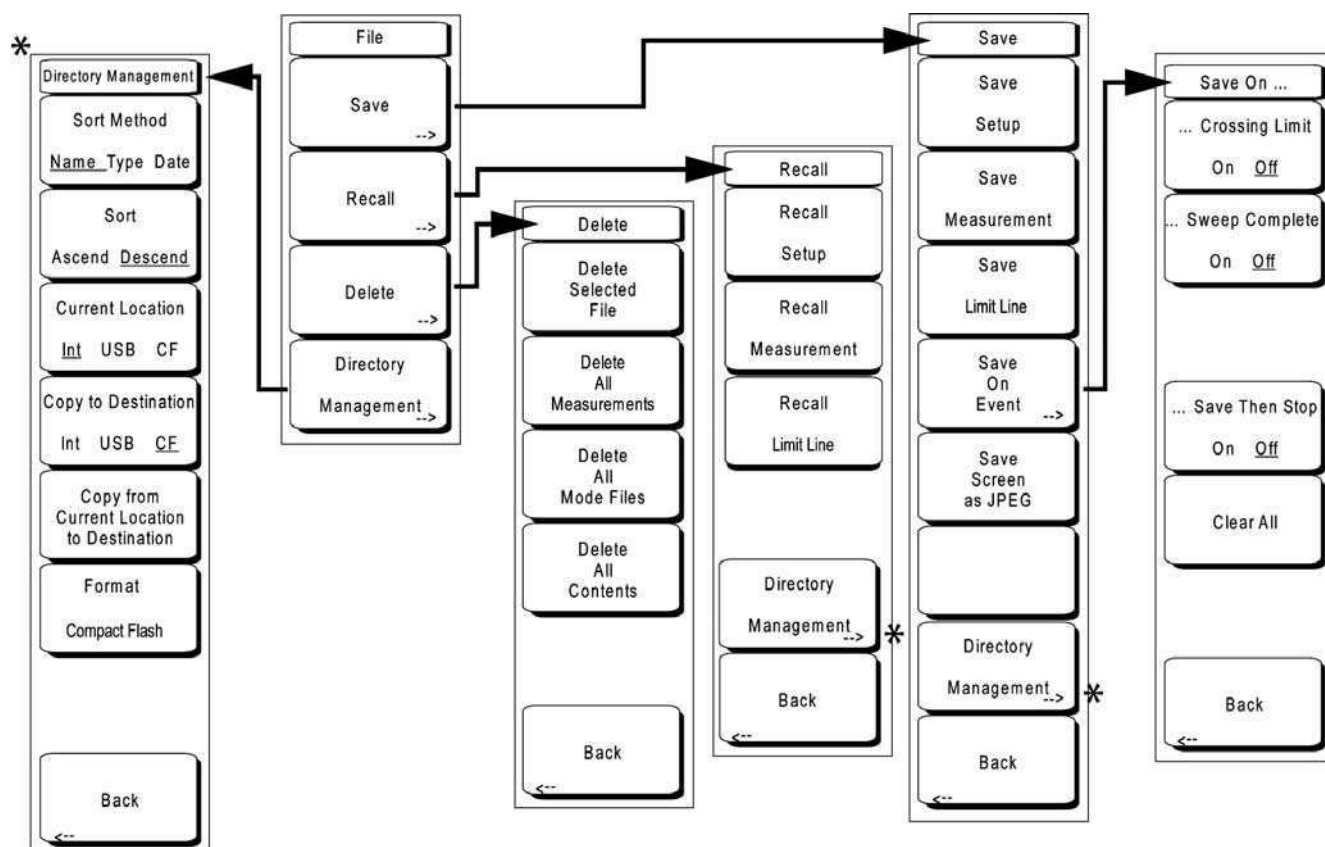

Figure 3-3. File Menu Soft Keys
To access the functions under the File menu, press the **Shift** key, then the **File** (7) key. The File menu soft keys are shown in Figure 3-3: